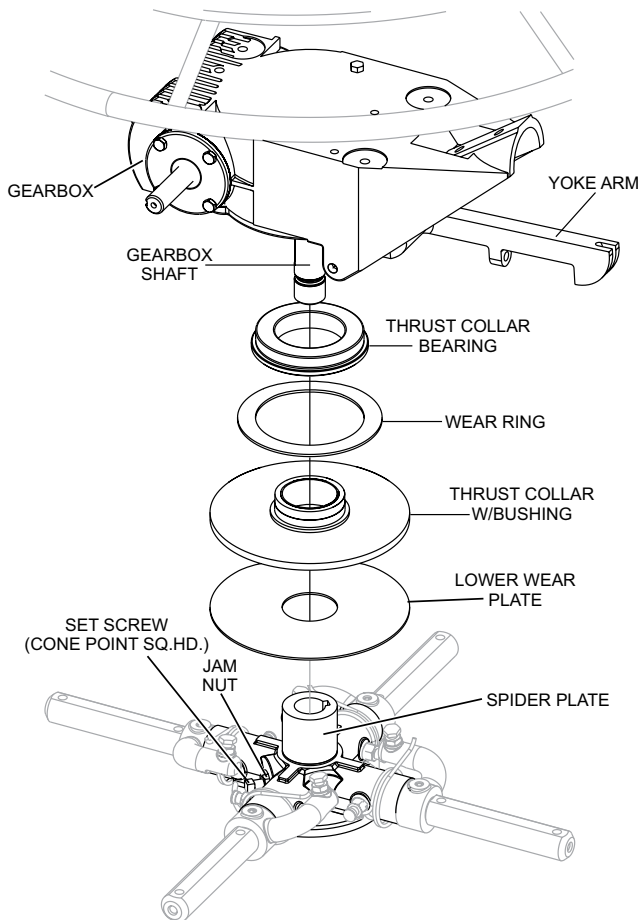

**Figure 54. Incorrect Spider Plate Alignment**
6. Figure 54 illustrates, “incorrect alignment”, worn spider bushings or bent trowel arms.